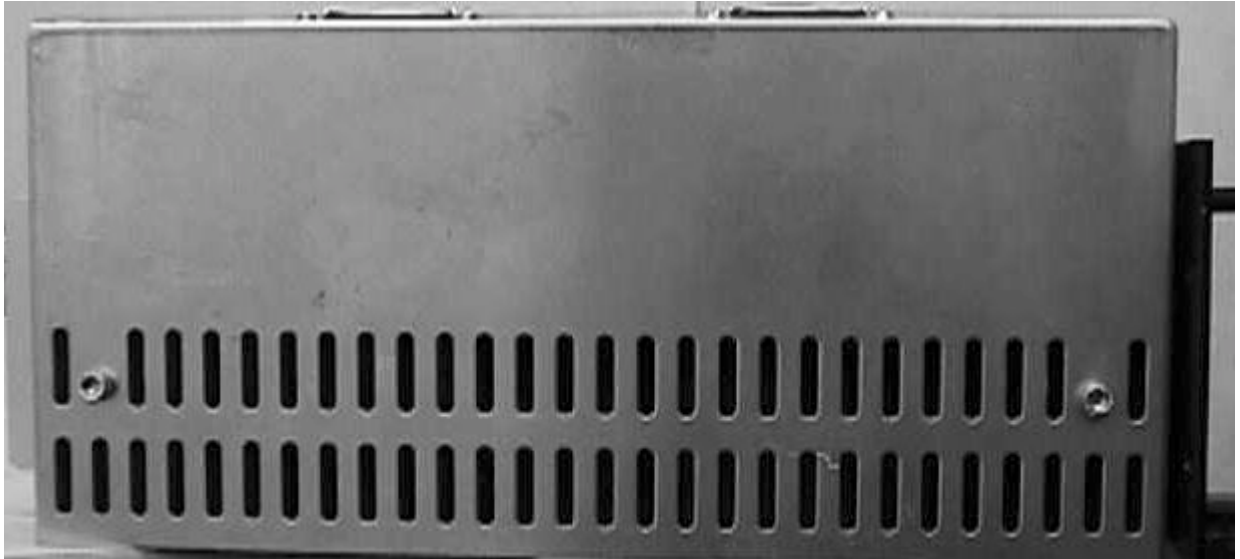

Figure 1: Assembly connected to the EX7100 Terminal
- 3) Refer to Figure 1 below and remove the 2x M6 socket cap screws and washers from the Fan Box Assembly using the Short arm Hex wrench. The removed screws and washers should be put to one side for future replacement.